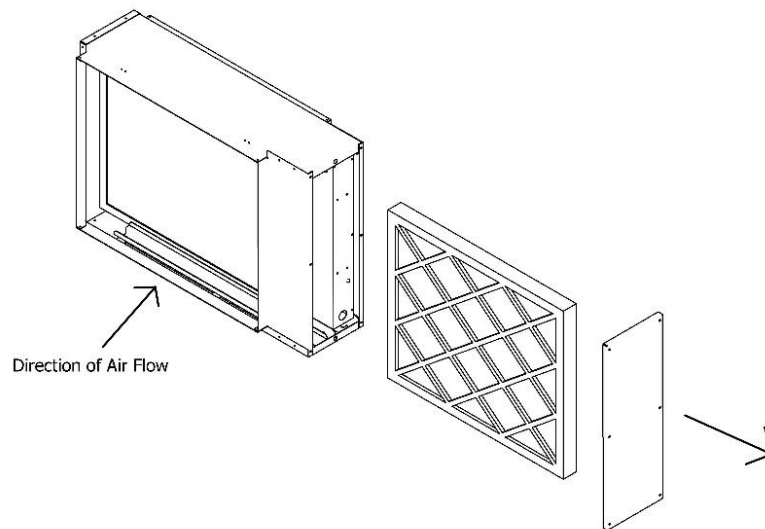

Figure 18
1.) If CU-R3 looks like the one in Figure 18, switch unit OFF at service disconnect switch or disconnect power at building fuse box.